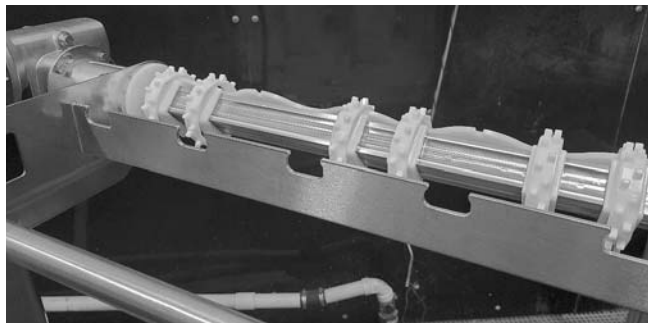
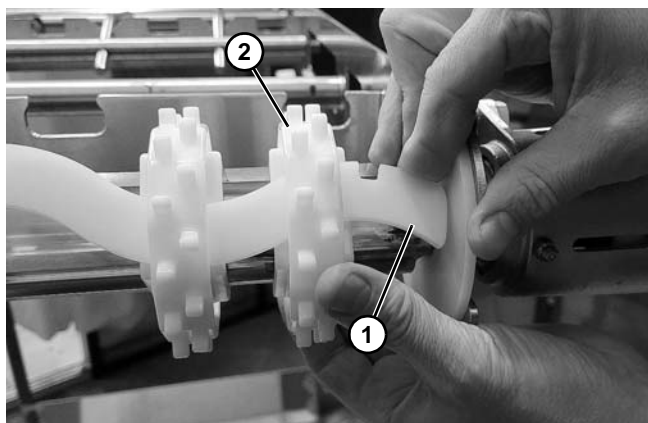
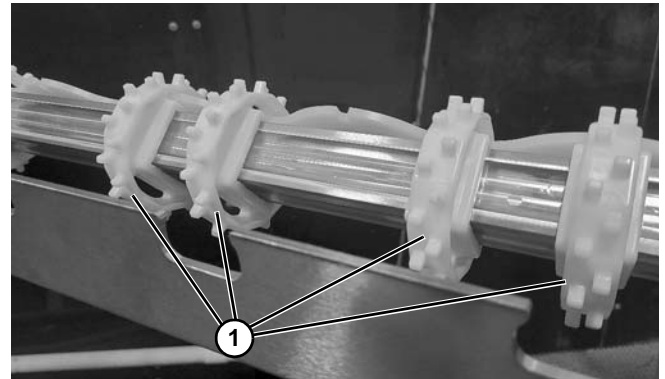

Figure 39
Figure 40
Figure 41
- d. Drive Tail: Clean drive sprocket and tail (**Figure 39**). To disengage, push down on sprocket alignment key (**Figure 40, item 1**) while sliding sprocket (**Figure 40, item 2**) out of tab. Repeat procedure to clean remaining sprockets (**Figure 41, item 1**).